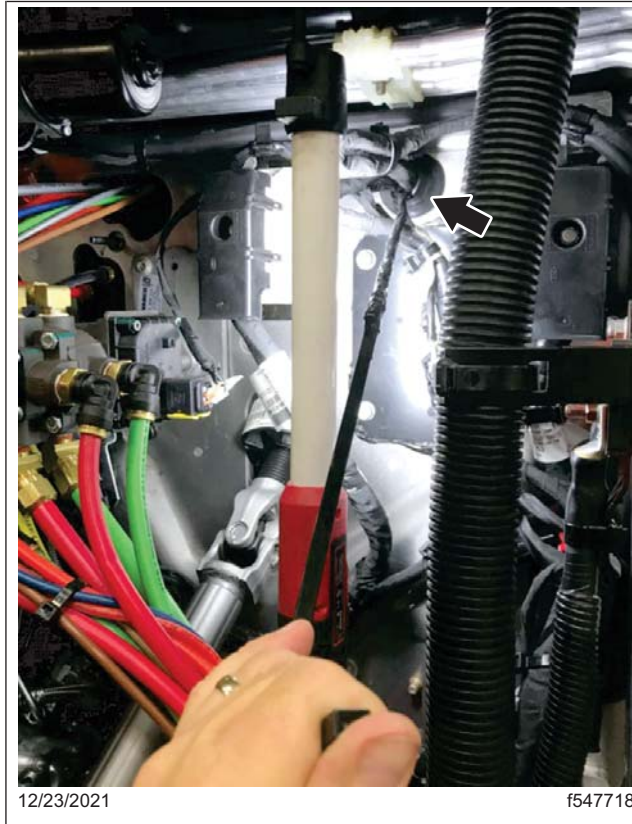

Fig. 15, Pulling the Harness Through the Grommet
8. Apply a small amount of WD-40 or similar lubricant to the tape. From the engine side, use the cable tie to pull the end of the harness through the grommet as shown in Fig. 15.